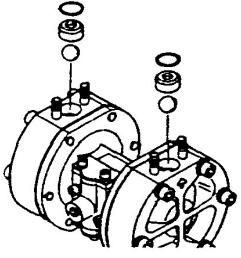

Fig. 4.6
- Remove the O-ring, ball guide, ball and valve seat. [Fig. 4.6]